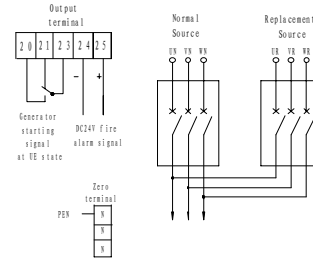
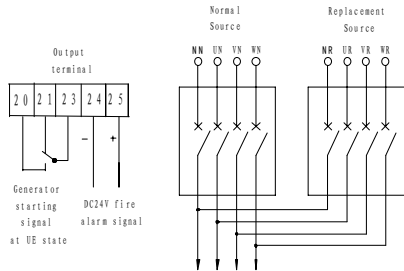

Fig.7 Three Poles ATNS with B type Controller
Fig.8 Four Poles ATNS with B type Controller
- For ATNS with B type controller, a group of float Contact (terminal 20,21,22) is provided to start generator, you can connect It into generator start circuit. A fire alarm signal input terminal(23,24) is also provided , when a DC24V fire alarm signal input into the terminal, the ATNS will transfer to OFF position, and cut power supply of load. you can use these output signal according Fig.7—Fig.8